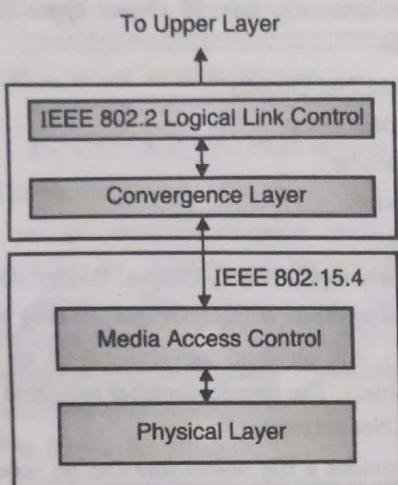

Fig. 4.6.1 : IEEE 802.15.4 Stack
- As shown in Fig. 4.6.1, data frames are sent via Physical layer and MAC layer to LLC for formatting.